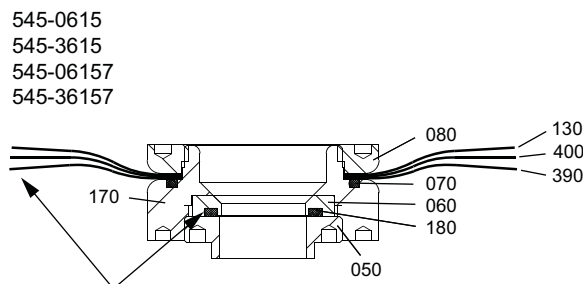

Fig. 7 Position of diaphragm, injectors up to 20 kg/h
1. Unscrew the diaphragm ring (pos. 80, fig. 7 or 8).
2. Check the O-ring (pos. 70), replace O-Ring if necessary.
3. Injectors up to 20 kg/h: remove diaphragm (130, 400, 390); injectors up to 40 kg/h: remove diaphragm (130).